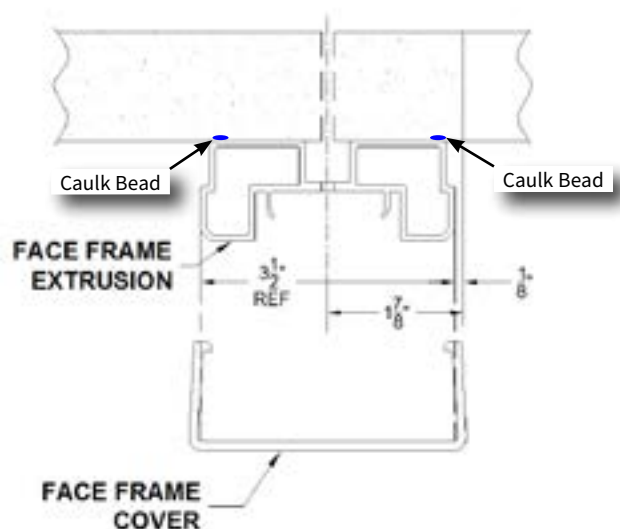

Figure 8: XP Face Frame Detail
- 3 Attach the aluminum face frame extrusions to the wall (figure 8 & 9). Drill holes for face frame anchors. Placement of the screws should start 6" from the floor, then continue approx. Every 24" for the full height of the frame. When drilling holes for mounting face frame, avoid damaging heat tapes, wiring, and terminal blocks assembled on face frame.